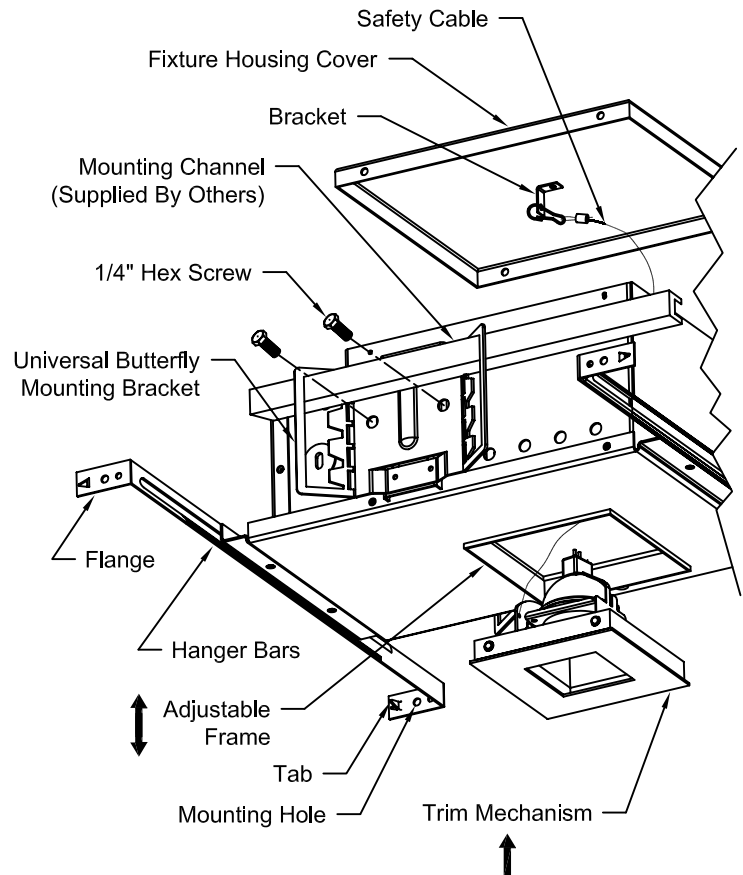
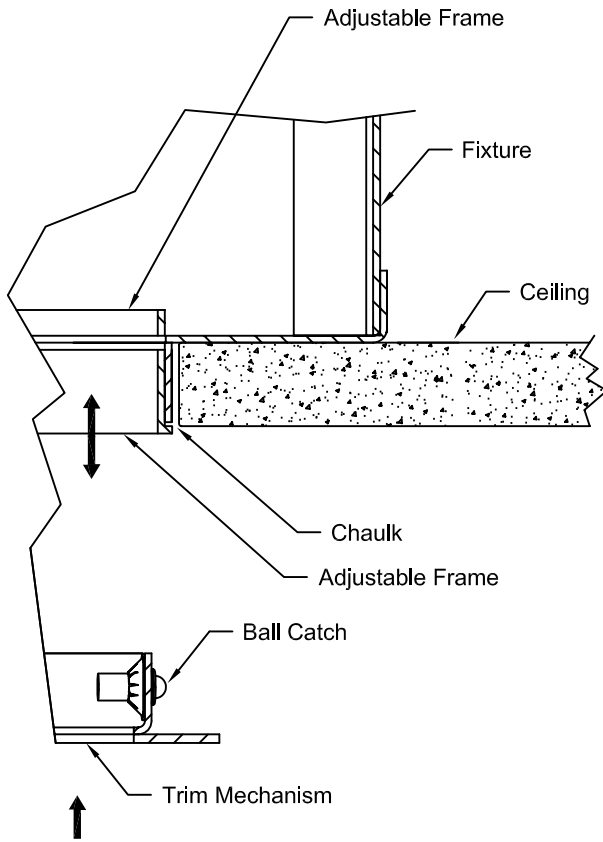
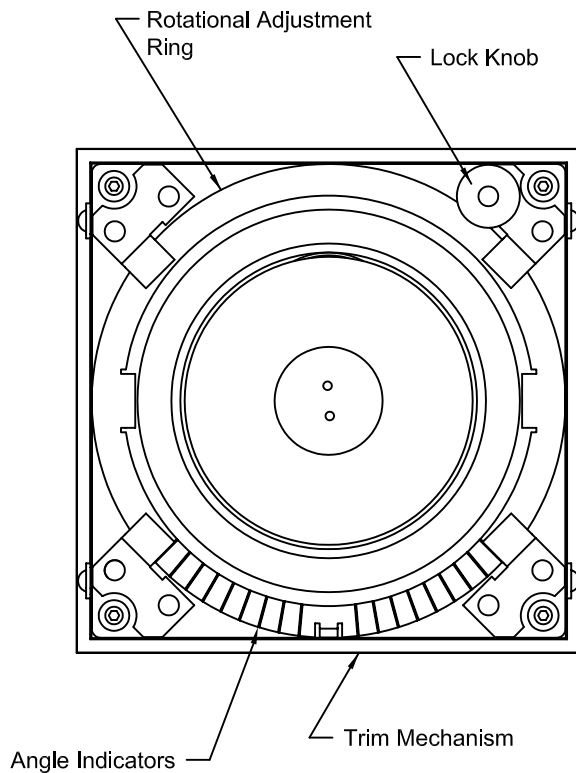

Figure 1
Figure 2
Figure 4
1. Fixture comes equipped with Universal Butterfly Mounting and can take common 1 inch or 1-1/2 inch Black Iron or Galvanized Mounting Channels (Supplied By Others). See Fig. 1.
5. Adjust elevation of Fixture so Adjustable Frame Edge will be flush with surface of finished Ceiling by loosening two (2) 1/4 inch Hex Screws on both Universal Butterfly Mounting Brackets. See Fig. 1.
6. Tighten two (2) 1/4 inch Hex Screws on both Universal Butterfly Mounting Brackets to secure Fixture. See Fig. 1.
7. Install Ceiling drywall up to Adjustable Frame on Fixture. See Fig. 2.
8. Position Adjustable Frame to be in plane with Ceiling by sliding up or down. See Fig. 2.
3. Hammer Flanges to seat Hanger Bar Tabs in rafters. See Fig. 1.
4. Secure Hanger Bars using one (1) nail in Mounting Hole in each Flange.
5. Install Ceiling drywall up to Adjustable Frame on Fixture. See Fig. 2.
6. Position Adjustable Frame to be in plane with Ceiling by sliding up or down. See Fig. 1 & Fig. 2.
1. Connect Safety Cable attached to Banana Bracket on Trim Mechanism (See Fig. 1 & Fig. 4) to Fixture by inserting Safety Cable through opening in Fixture and inserting Snap Hook on end of Safety Cable into hole in Bracket attached to inside of Fixture Housing Cover (See Fig. 1).
2. Install Trim Mechanism into Fixture by pressing firmly to engage Ball Catches. See Fig. 2.